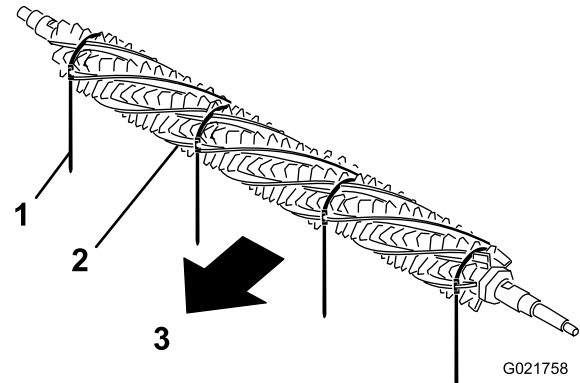

Figure 18
1. From one side of the groomer reel, slide a brush into each groove around the full length of the groomer reel (Figure 18).